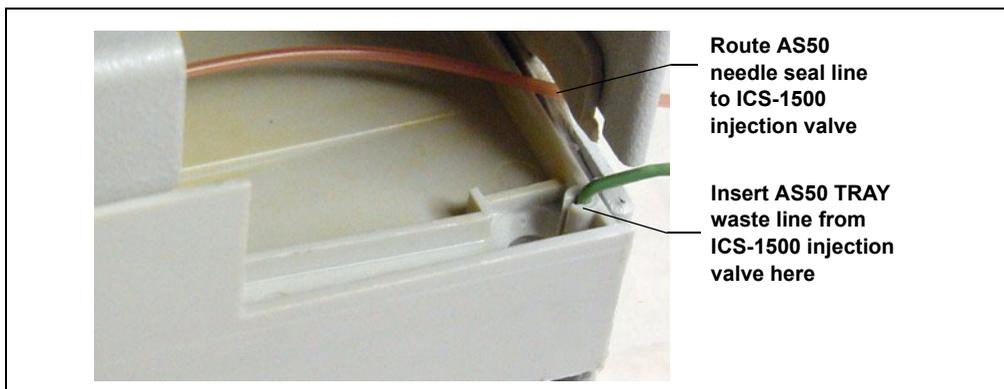

Figure 39. AS50 Drip Tray
3. The needle seal line that extends from the inject port in the autosampler is coiled inside the AS50 door, on the right side. Route this line through the AS50 right side slot (see Figure 39) and the ICS-1500 left side slot to the ICS-1500 injection valve.
6. Push the end of the green **AS50 TRAY** line into the small round opening on the right side of the AS50 tray (see Figure 39).